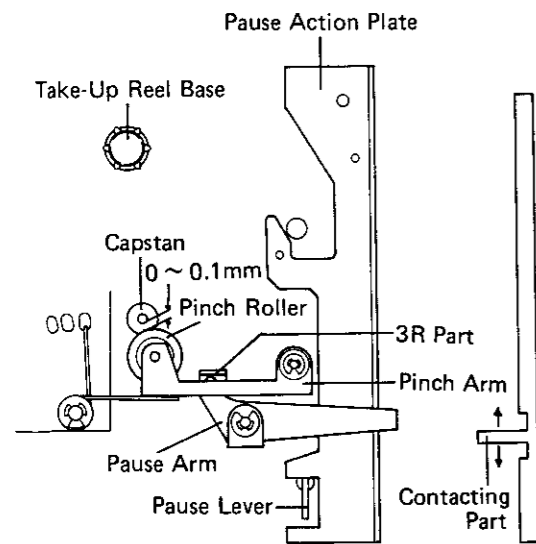

Fig. 9
1. Depress the PAUSE lever when the deck is in the play mode, and then gently release it. The gap between the pinch roller and capstan should be no wider than 0.1mm when the reel base commences to rotate. (See Fig. 9).